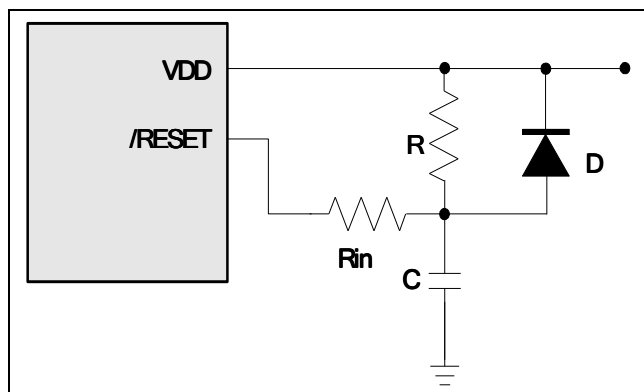

Figure 6-15 External Power-Up Reset Circuit
The circuit diagram in Figure 6-15 below implements an external RC to generate the reset pulse. The pulse width (time constant) should be kept long enough for V_{DD} to reach minimum operational voltage. Apply this circuit when the power supply has slow rise time. Since the current leakage from the /RESET pin is about $\pm 5\mu\text{A}$, it is recommended that R should not be greater than 40K Ω in order for the /RESET pin voltage to remain at below 0.2V. The diode (D) functions as a short circuit at the instant of power down. The capacitor (C) will discharge rapidly and fully. The current-limited resistor (R_{in}) will prevent high current or ESD (electrostatic discharge) from flowing into /RESET pin.